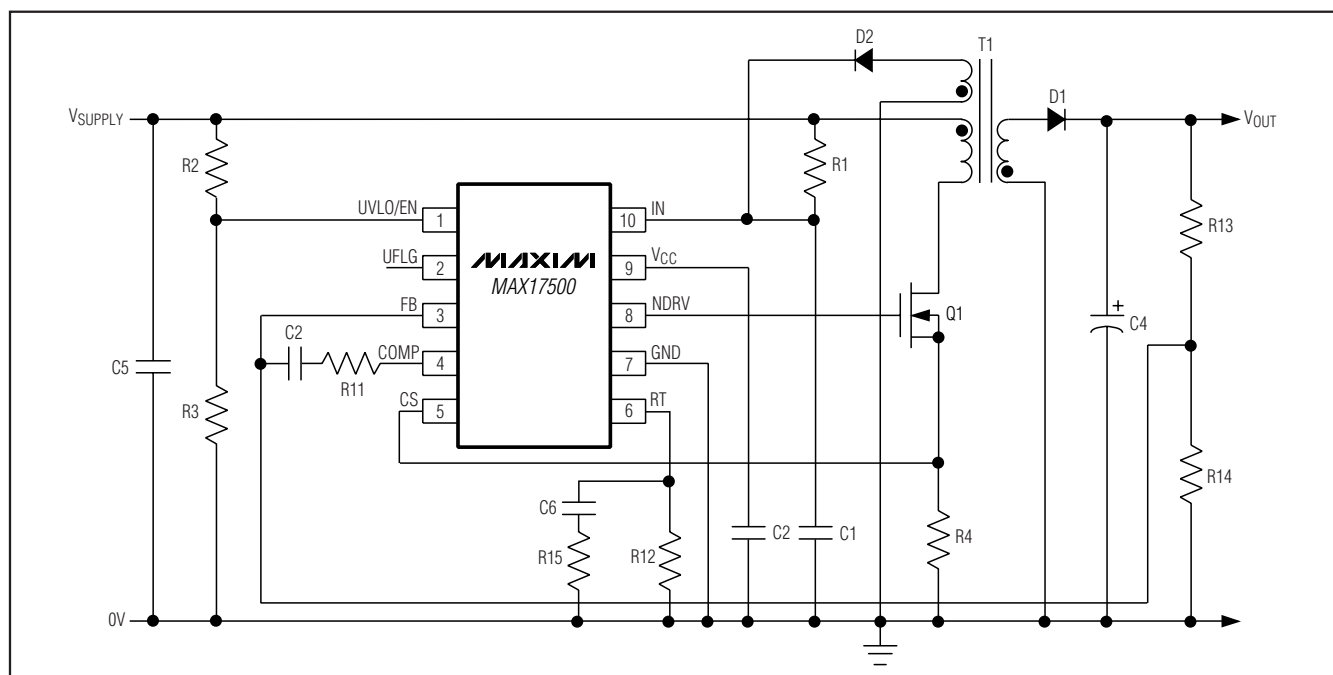

Figure 1. Nonisolated Power Supply with Programmable Input-Supply Start Voltage
**Note 2:** The MAX17500 is intended for use in universal input power supplies. The internal clamp circuit at IN is used to prevent the bootstrap capacitor (C1 in Figure 1) from charging to a voltage beyond the absolute maximum rating of the device when UVLO/EN is low (shutdown mode). Externally limit the maximum current to IN (hence to clamp) to 2mA maximum when UVLO/EN is low. Clamp currents higher than 2mA may result in a clamp voltage higher than 30V, thus exceeding the absolute maximum rating for IN. For the MAX17499, do not exceed the 24V maximum operating voltage of the device.
The MAX17500 is well suited for universal input (rectified 85V AC to 265V AC) or telecom (-36V DC to -72V DC) power supplies. The MAX17499 is well suited for low-input-voltage (9.5V DC to 24V DC) power supplies. The devices include an internal clamp at IN to prevent the input voltage from exceeding the absolute maximum rating (see Note 2 at the end of the *Electrical Characteristics* table). The input is clamped when the devices are started with a bleed resistor (R1 in Figure 1) from a high input voltage and the UVLO/EN input is low. The clamp can safely sink up to 2mA current.
Power supplies designed with the MAX17500 use a high-value startup resistor, R1, that charges a reservoir capacitor, C1 (see Figure 1). During this initial period, while the voltage is less than the internal bootstrap UVLO threshold, the device typically consumes only 50μA of quiescent current. This low startup current and the large bootstrap UVLO hysteresis help to minimize the power dissipation across R1 even at the high end of the universal AC input voltage (265V AC).
Use this UVLO/EN input to program the input-supply start voltage. For example, a reasonable start voltage for a 36V to 72V telecom range is usually 34V. Calculate the resistor-divider values, R2 and R3 (see Figure 1) by using the following formulas:
point, the internal regulator begins charging C2 (see Figure 1). Only 50 $\mu$ A of the current supplied through R1 is used by the MAX17500; the remaining input current charges C1 and C2. The charging of C2 stops when the  $V_{CC}$  voltage reaches approximately 9.5V, while the voltage across C1 continues rising until it reaches the wake-up level of 21.6V. Once  $V_{IN}$  exceeds the bootstrap UVLO threshold, NDRV begins switching the MOSFET and transfers energy to the secondary and tertiary outputs. If the voltage on the tertiary output builds to higher than 9.74V (the bootstrap UVLO lower threshold), then startup has been accomplished and sustained operation commences. If  $V_{IN}$  drops below 9.74V before startup is complete, the device goes back to low-current UVLO. In this case, increase the value of C1 to store enough energy to allow for the voltage at the tertiary winding to build up.
The MAX17499A/MAX17500A and MAX17499B/MAX17500B have programmable output switching frequencies from 25kHz to 625kHz and 12.5kHz to 625kHz, respectively. Use the following formulas to determine the appropriate value of resistor R12 (see Figure 1) needed to generate the desired output switching frequency ( $f_{sw}$ ) at the NDRV output:
where R12 is the resistor connected from RT to GND (see Figure 1).
Connect an RC network in parallel with R12 as shown in Figure 1. The RC network should consist of a 100nF capacitor, C6, (for stability) in series with resistor R15, which serves to further minimize jitter. Use the following formula to determine the value of R15:
The devices include an internal error amplifier to regulate the output voltage in the case of a nonisolated power supply (see Figure 1). For the circuit in Figure 1, calculate the output voltage using the following equation:
The current-sense resistor ( $R_4$  in Figure 1), connected between the source of the MOSFET and ground, sets the current limit. The current-limit comparator has a voltage trip level ( $V_{CS}$ ) of 1V. Use the following equation to calculate the value of  $R_4$ :
The bypass capacitor at  $IN$ ,  $C_1$ , supplies current immediately after the MAX17500 wakes up (see Figure 1). The size of  $C_1$  and the connection configuration of the tertiary winding determine the number of cycles available for startup. Large values of  $C_1$  increase the start-up time but also supply gate charge for more cycles during initial startup. If the value of  $C_1$  is too small,  $V_{IN}$  drops below 9.74V because NDRV does not have enough time to switch and build up sufficient voltage across the tertiary output, which powers the device. The device goes back into UVLO and does not start. Use a low-leakage capacitor for  $C_1$  and  $C_2$ .
The above startup method is applicable to a circuit similar to the one shown in Figure 1. In this circuit, the tertiary winding has the same phase as the output windings. Thus, the voltage on the tertiary winding at any given time is proportional to the output voltage and goes through the same soft-start period as the output voltage. The minimum discharge time of C1 from 21.6V to 9.74V must be greater than the soft-start time of 5.6ms.